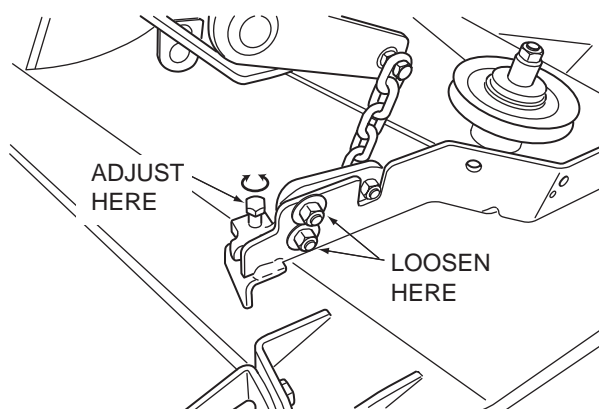

Figure 6-5 Cutter Deck Level Adjustment
1. On the front LH side of the cutter deck locate the cutter deck level adjusting bracket (See Figure 6.5)